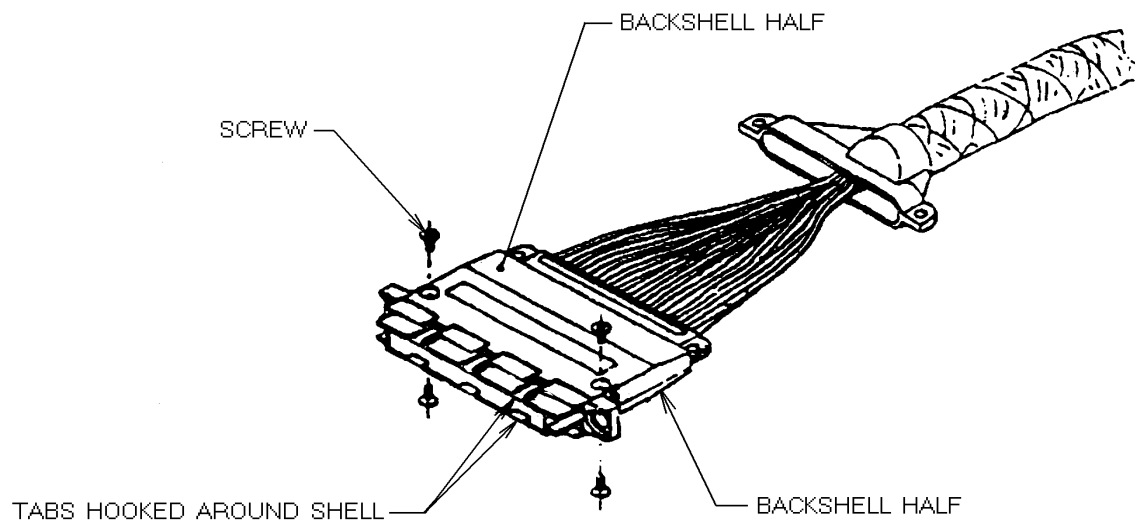

Figure 5-10. Attaching EMI Backshell to Connector Shell.
1. Attach the two backshell halves to the connector shell (Figure 5-10).